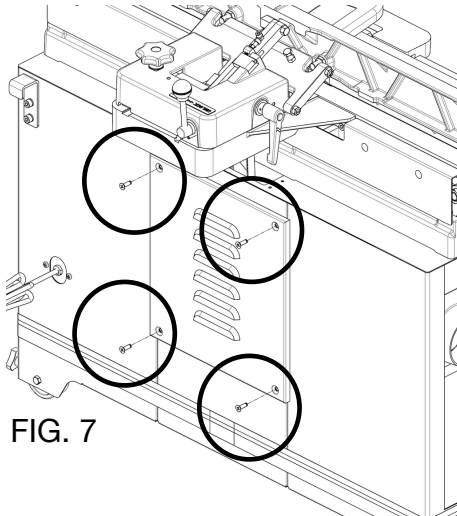
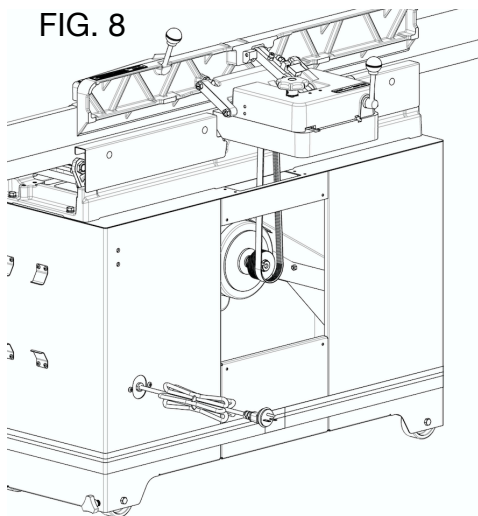

FIG. 7
FIG. 8
STEP 2: Loosen four screws as shown in **FIG. 7** on the rear access panel and remove the panel as shown in **FIG. 8**.
STEP 2: Remove rear access panel door as shown in FIG. 7 and FIG. 8 on A. BELT TENSION on page 17.